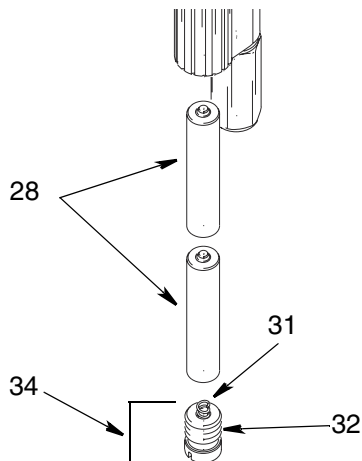

FIG. 5
Refer to FIG. 5 for the following instructions.
3. Unscrew the battery cap (34) and remove the two batteries (28). (FIG. 5)
4. Unscrew the 4 fastening screws (23) and remove the outlet housing (24), the plate (25), and the plate gasket (26).
5. Remove the screws (21) along with the electronics (17).
15. Insert the batteries (28) into the battery compartment on the handle (29) following the Battery Replacement Procedure (page 8).
16. Tighten the battery cap (34) complete with o-ring (32) and spring (31). (FIG. 5)